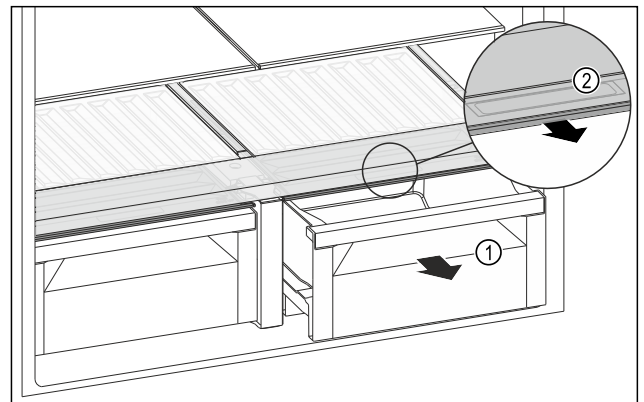

Fig. 132
- Pull out the drawer Fig. 132 (1).
- Grip the handle recess Fig. 132 (2) on the lid while pulling the lid forward at the same time.